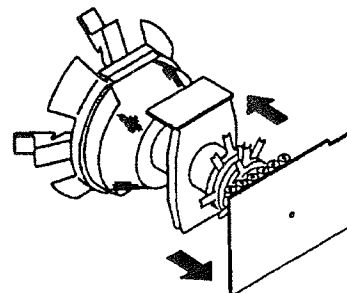

Fig. 3
5. Move the deflection yoke forward, and adjust so that the entire screen becomes green. (Fig.3)